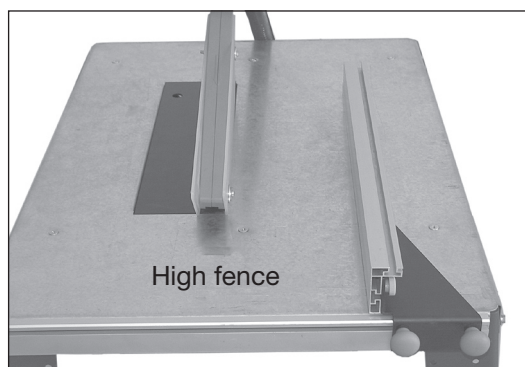

Fig 14.
- High fence: For rough pieces. Fig 14.